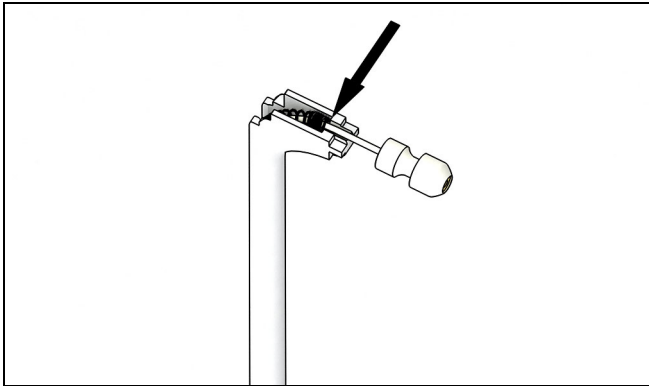

Figure 9 Correct spring placement.
- Be sure the tether spring does not extend past the point shown in Figure 9.